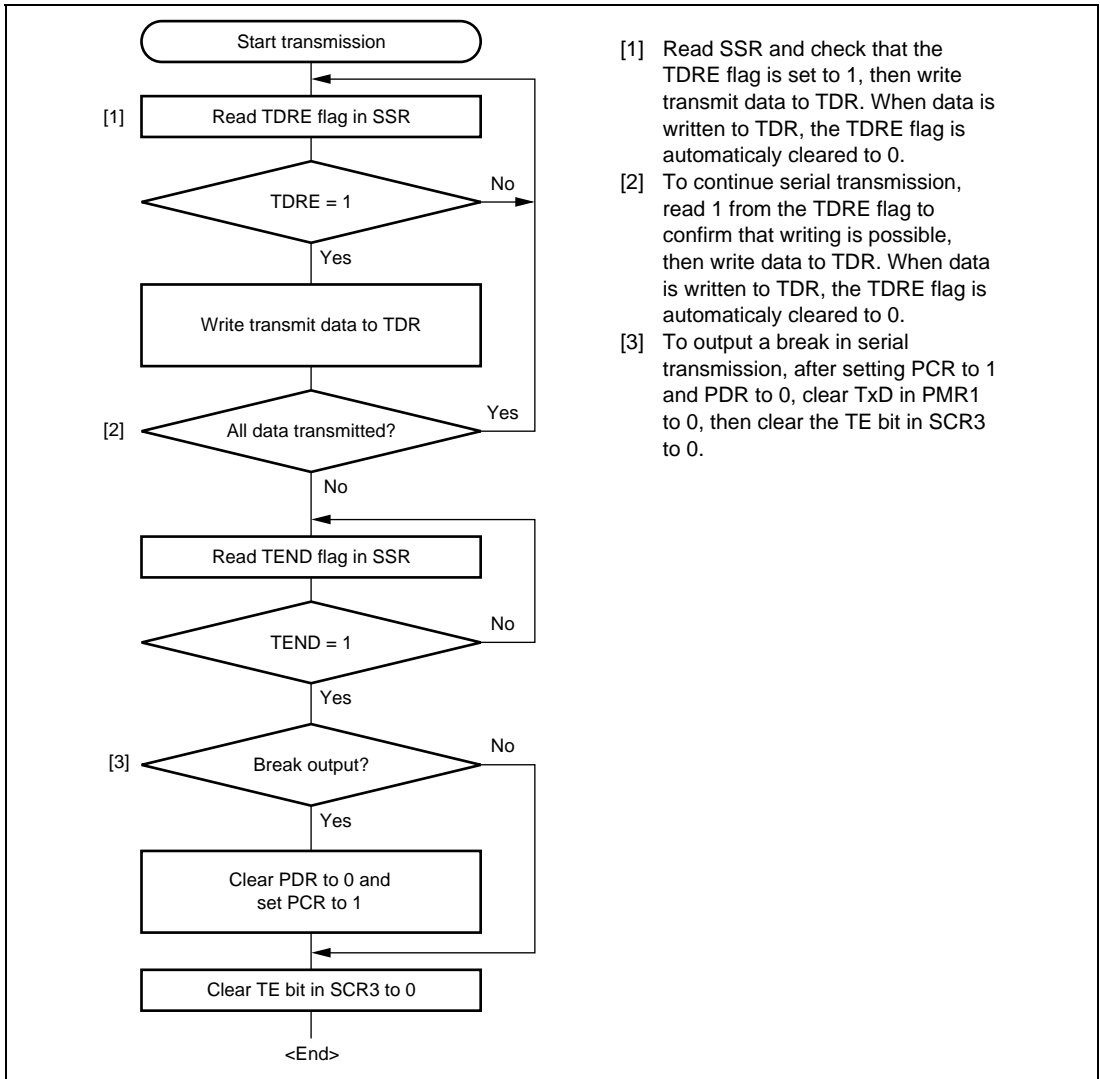

Figure 16.6 Sample Serial Transmission Data Flowchart (Asynchronous Mode)
6. Figure 16.6 shows a sample flowchart for transmission in asynchronous mode.